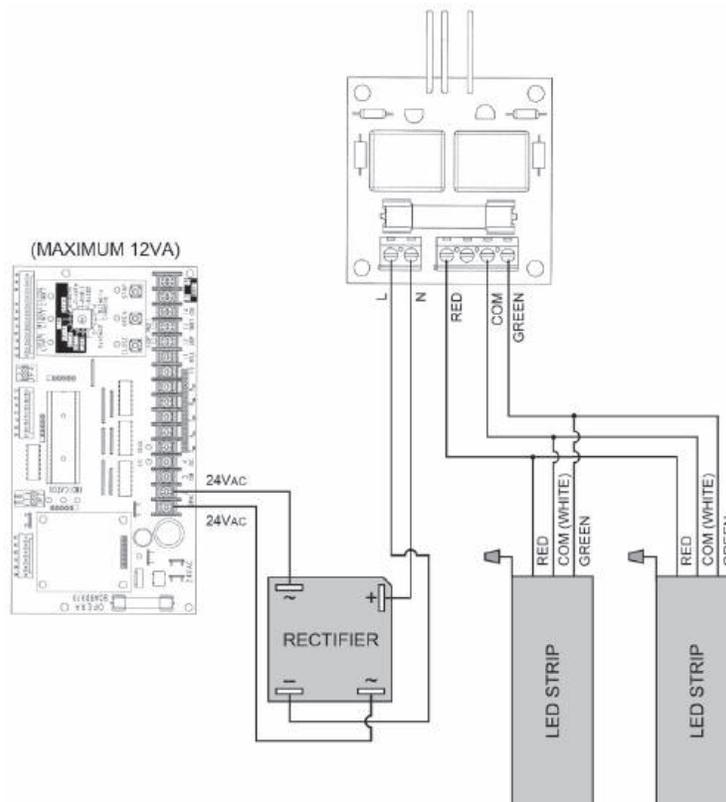

Figure 4 - LED Strip Wiring Diagram
- Connect the LED Strips as per Figure 4 below.